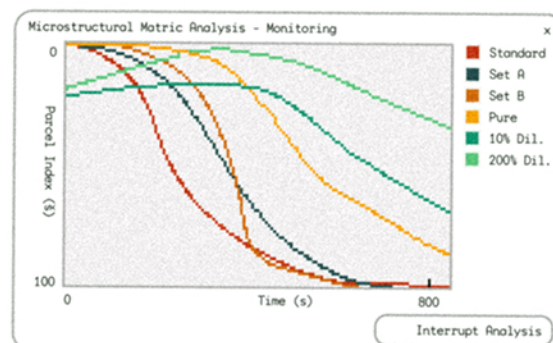

Figure 5. While **Set A** and **B** have both equilibrated to 100 \bar{s} , **10% Dil.** has not yet equilibrated.
2. Press **Run**. The popup window will close, and the data will begin populating the spreadsheet. A new window will appear: **Microstructural Matrix Analysis - Monitoring** (Fig. 5). [This may be reopened at any time using the **Monitoring** button in the **Metrics and Synthetic Analyses** window.]